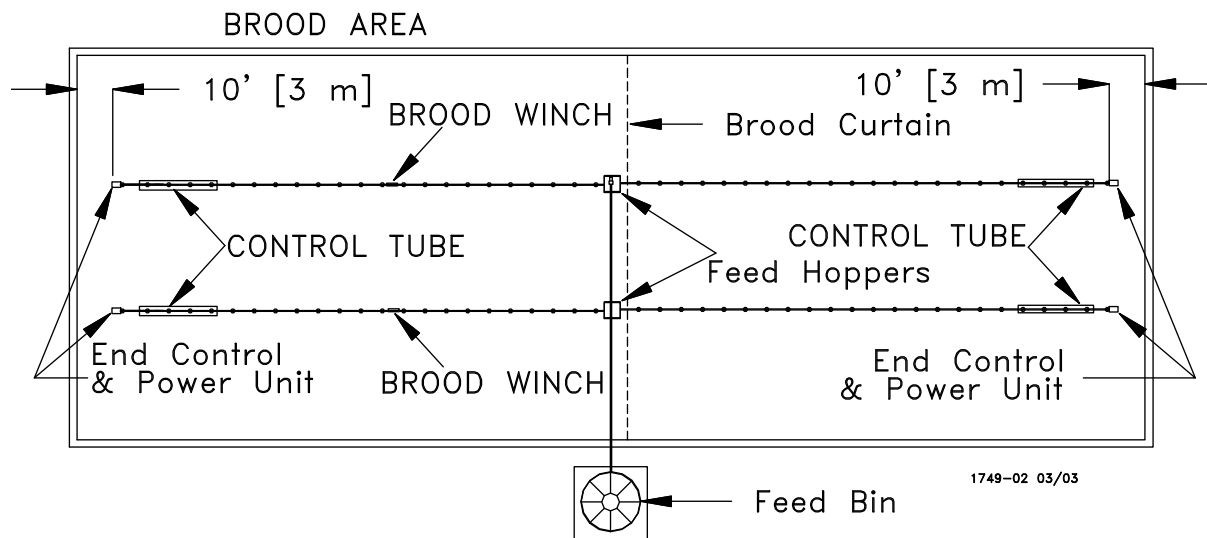

Figure 2. Component location diagram for systems over 400 feet [122 m]. (Top View).
B. Systems with line lengths over 400' [122 m] should be split in the center, as shown in **Figure 2**. This will reduce auger running time and eliminate the need for Mid-Line Controls for partial house brooding.